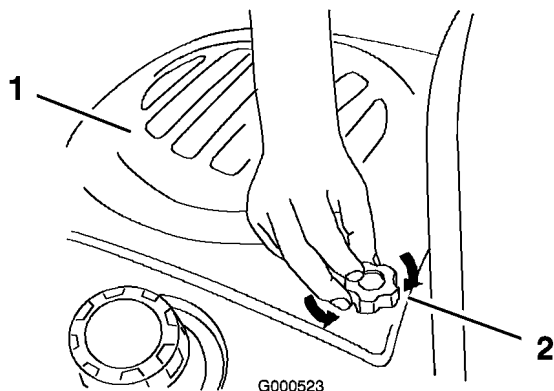

Figure 17
1. To remove the hood, loosen the knobs and then pull the hood back and up (Figure 17).
3. Tighten the knobs in the engine hood (Figure 17).